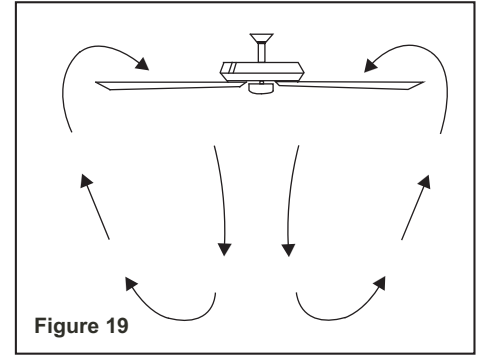

Figure 19
**Warm weather** - (Counter-Clockwise direction) A downward air flow creates a cooling effect. (Fig. 19) This allows you to set your air conditioner on a higher setting without affecting your comfort.